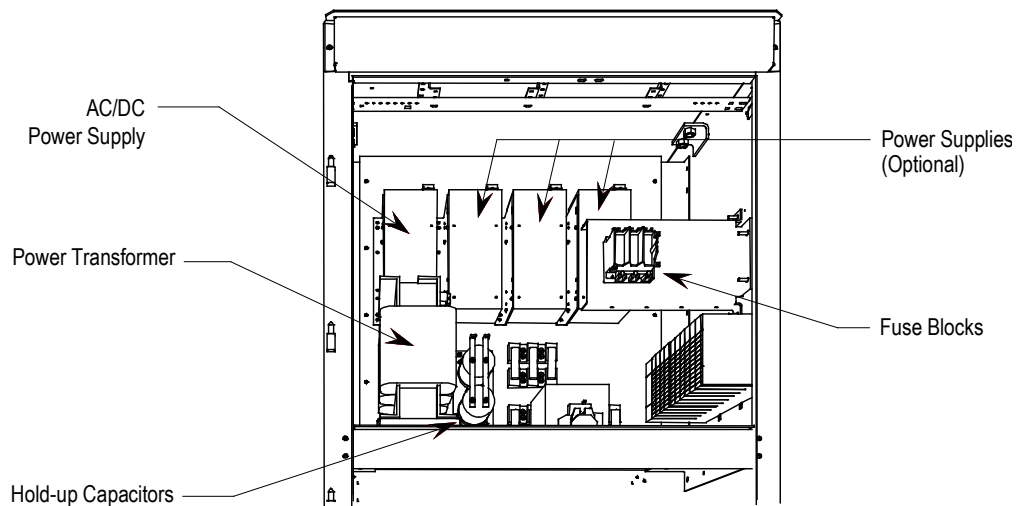

Figure 4.50 – Replacement of AC/DC Power Supply on Low Voltage Panel
The terminal connections are shown in Figure 4.50.
3. Remove the two M6 bolts per Figure 4.50.
7. Repeat Steps 5, 4, 3, 2 and 1 in this order to replace the unit (see Figure 4.50).